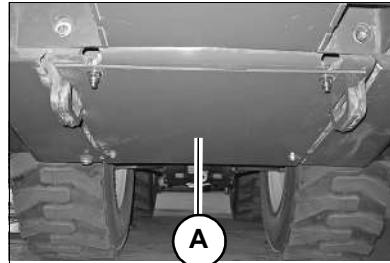

Figure 74 – Engine Access Panel
4. Remove the engine access panel (A, Fig. 74).
10. Reinstall the engine access panel (A, Fig. 74).